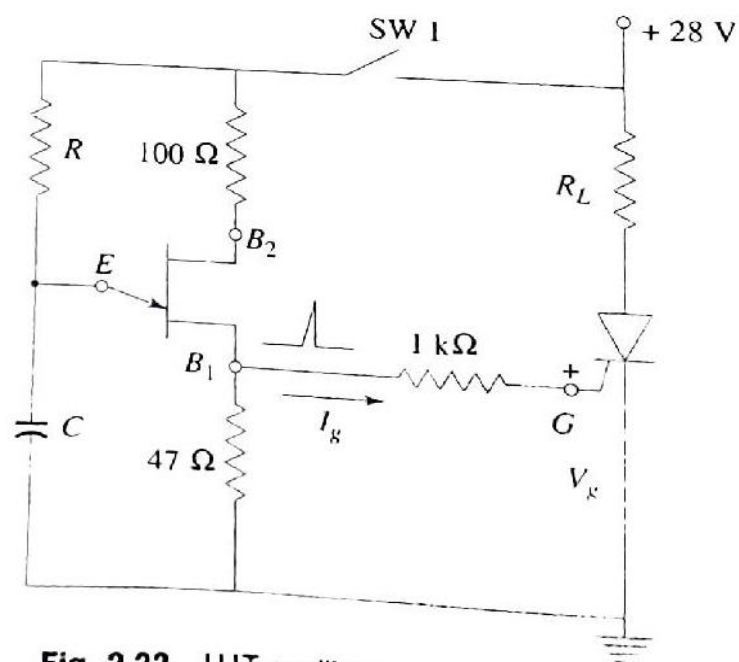

Fig. 2.22 UJT oscillator as gate trigger source
- The basic circuit is shown in Fig.2.22.